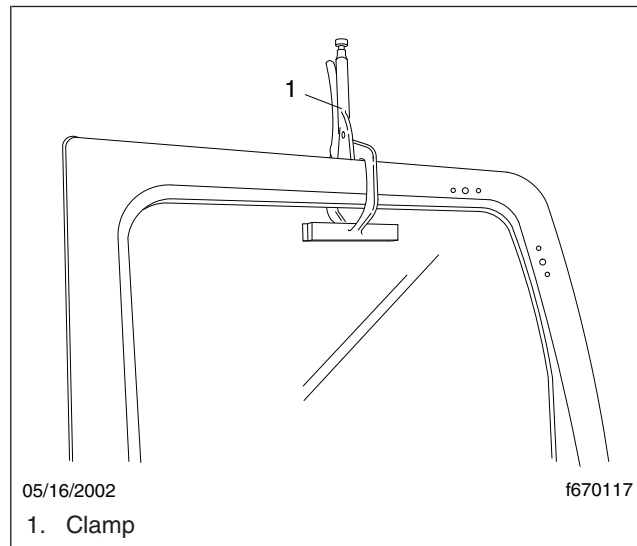

Fig. 9, Window Clamping
16. Through one of the door openings, hold the glass in place while removing the window mounting bolts. Slide the glass up and place a padded C-clamp over the top of the door to hold the glass. See Fig. 9.
1. Place the new window glass in the door, holding it up with a padded C-clamp over the door frame. See Fig. 9.